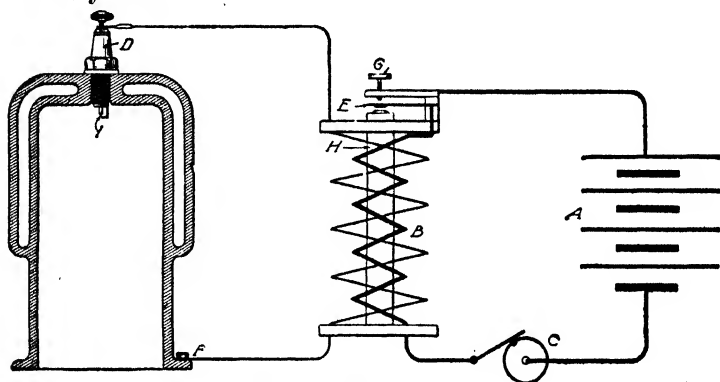

Fig. 42. Diagram of High-Tension Ignition System
The essentials of a high-tension system are shown diagrammatically in Fig. 42. *A* is the source of current, usually a battery in earlier days, as indicated by the conventional sign, placed in a primary circuit that also includes the contact maker *C*, the primary winding of the coil *B*, and the vibrator *G*. The contact maker *C* is positively driven by a connection with some revolving part of the motor, so that it makes contact at the exact time ignition is required in each cylinder.
As shown by Fig. 42, the latter has two distinct windings, one of a few turns of comparatively coarse wire and the other of many thousand feet of exceedingly fine wire, with high-grade silk insulation. After completing the coil, consisting of two superimposed windings and an iron-wire core passing through their center, it is placed in a wood box which is filled with melted paraffine wax which, upon solidifying, greatly enhances the resisting power of the insulation to breakdown, due to the great difference in potential between various parts of the secondary winding. To set up an induced current in the secondary winding, the primary circuit must be quickly opened and closed.
*Necessity for Vibrator.* The breaking of the primary circuit is accomplished by the use of a vibrator, a typical form of which is illustrated at *E*, *G*, and *H*, Fig. 42. This consists simply of the thin blade of spring steel at *E*, provided with an armature at the free end to intensify the attraction of the coil *H*, and adjacent to the adjusting screw at *G*, by which the distances between the contact points can be accurately set. In addition to these elements it is usual to provide a screw adjustment for increasing or reducing the tension of the vibrator blades.